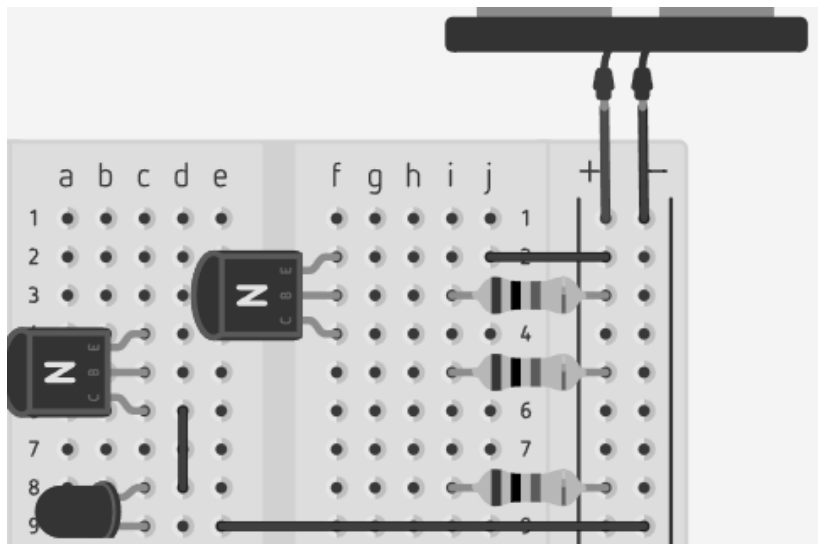

Figure 2
Maddy breadboards the circuit using a 9V battery so that the inputs are set to HIGH, as shown in Figure 2. Unfortunately, the circuit is not operational because Maddy has made a few mistakes.
- b) Correct and complete the breadboard layout in Figure 2.